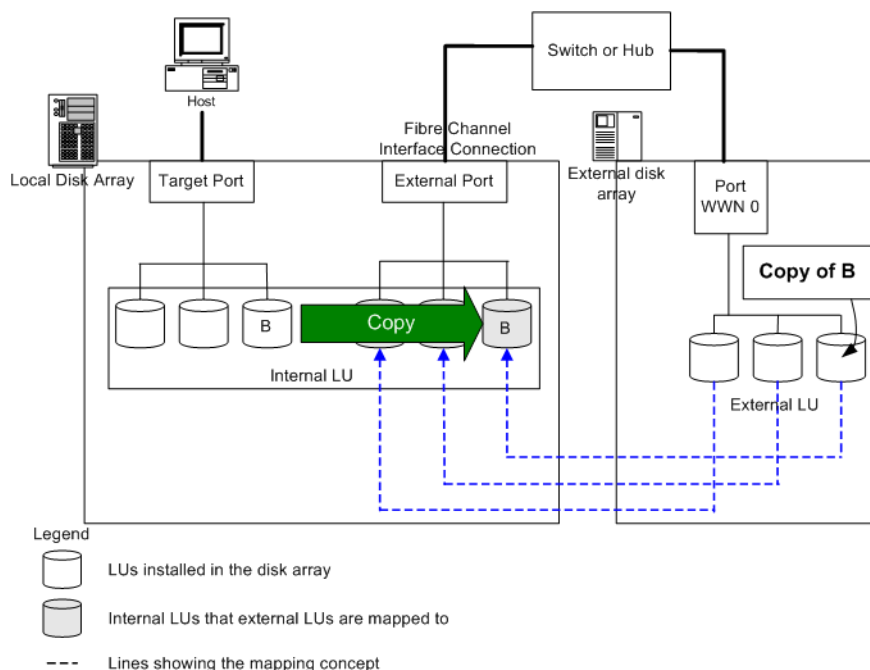

Figure 359 Copying data from a local disk array to an external LU
Figure 359 shows the concept of copying data in an internal LU to an external LU. The LU in the local disk array (B) is copied to the mapped external LU using Flex Copy. Note that during the Flex Copy copy operation, the host cannot access the internal LU B.